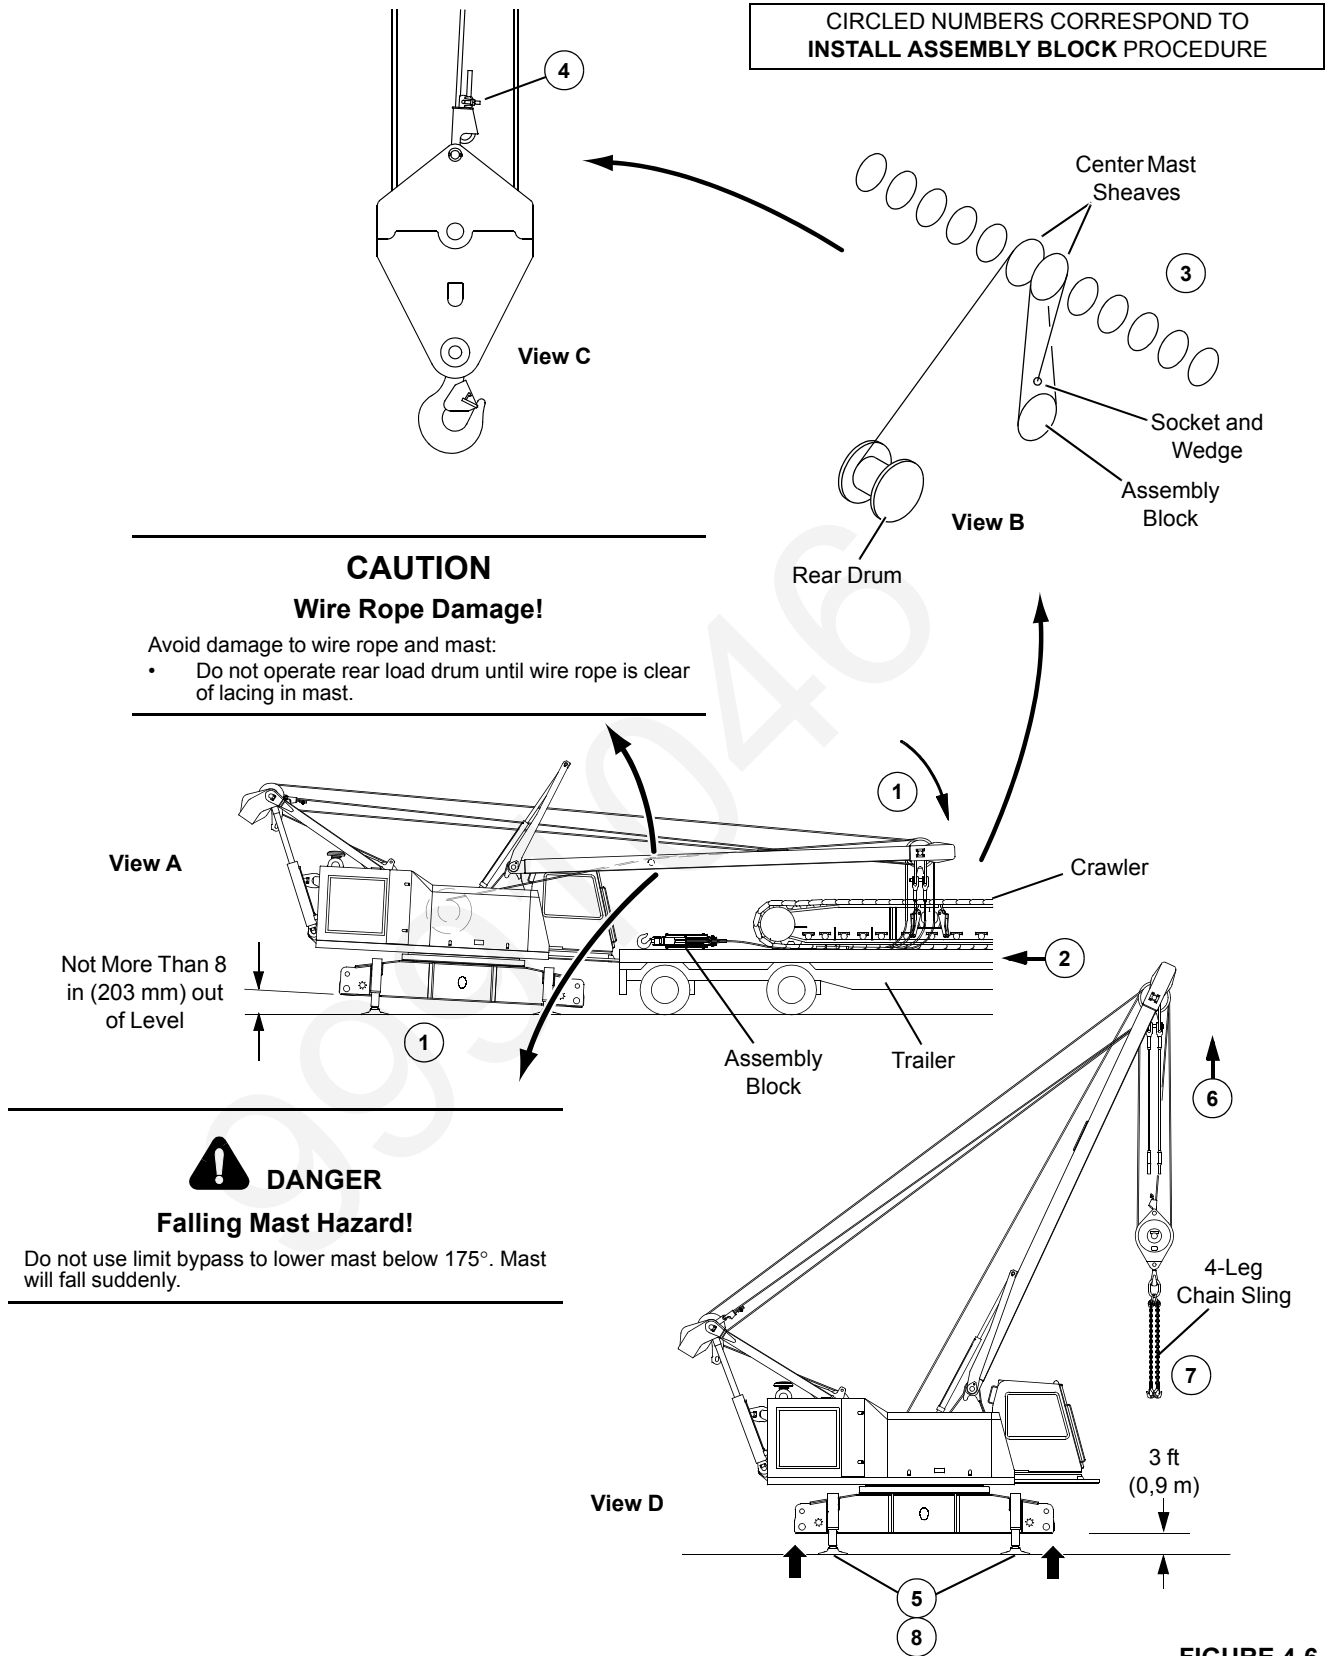

FIGURE 4-6
See Figure 4-6 for the following procedure.
**FIGURE 4-6 continued**